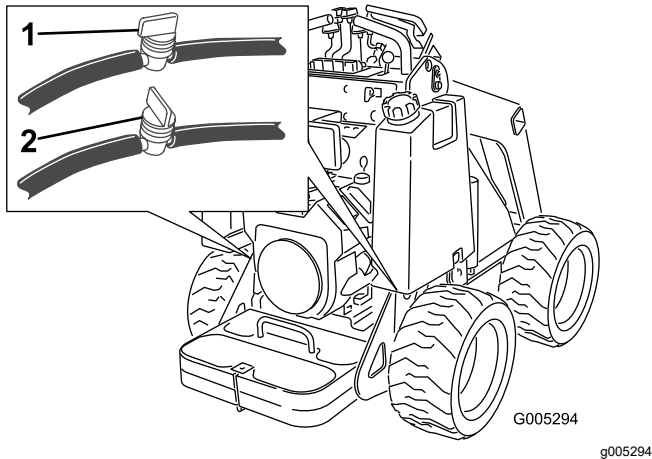

Figure 32
2. Shut off the fuel valve on the bottom of each fuel tank (Figure 32).
3. Shut off the fuel valve in the hose near the bottom of the fuel tank(s) as shown in Figure 32.
8. Open the fuel valve(s) in the hose(s) near the bottom of the fuel tank(s) as illustrated in Figure 32.